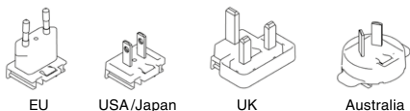
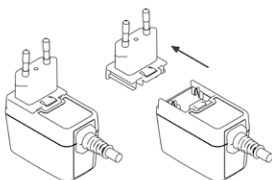

Fig. 3
Fig. 4
The primary country adapter of the power supply (4) is interchangeable, this enables worldwide operation. Fig. 3 and Fig. 4 describe the procedure of changing the plug.